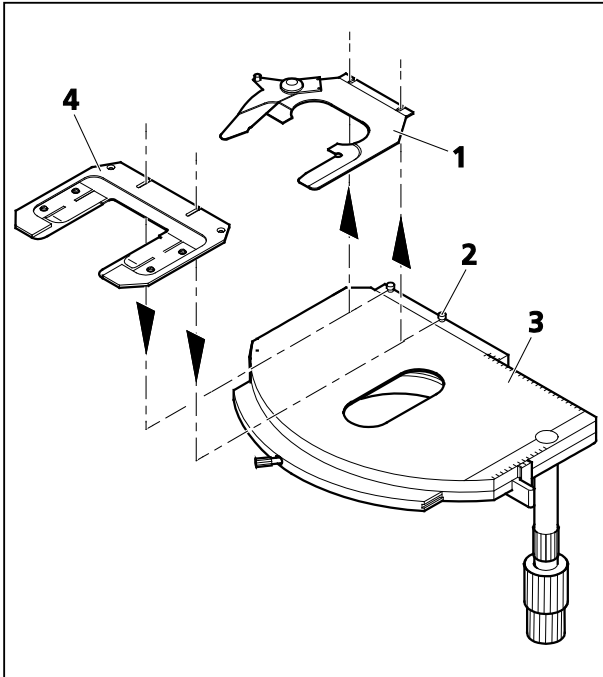

Fig. 66 Changing the specimen holder
- Loosen the two knurled screws (Fig. 66/2).
- Remove the specimen holder (Fig. 66/1) from the mechanical stage (Fig. 66/3) to the front.
- Attach the desired specimen holder (Fig. 66/4) to the mechanical stage with the slots under the heads of the knurled screws and tighten it using the knurled screws.